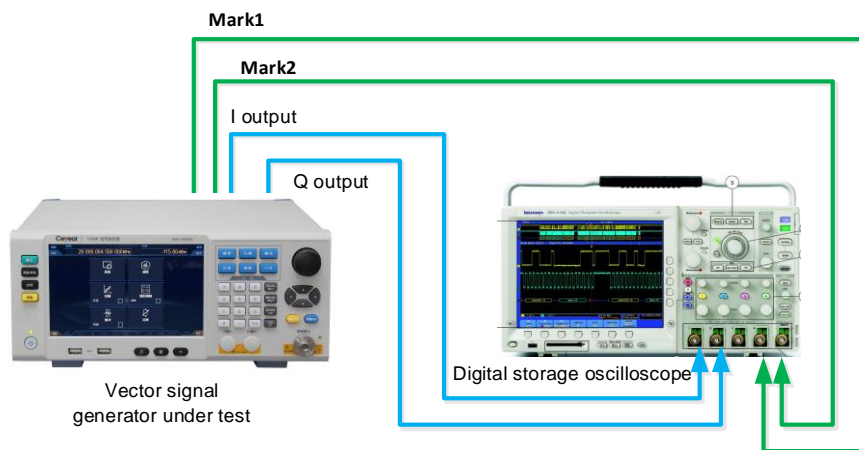

Figure 4.22 Triggering test
**Step 1.** Connect the instrument as per Figure 4.22.